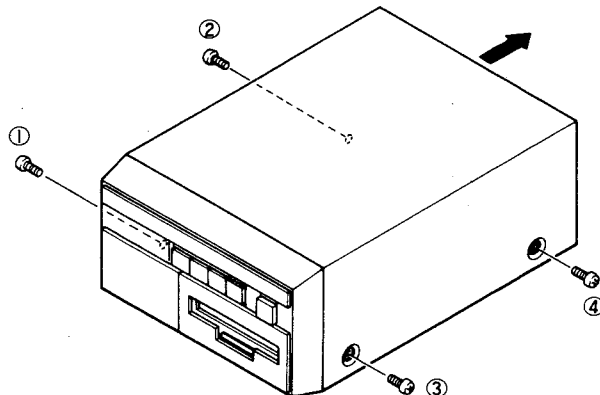

Fig. 1
Unscrew screws ① to ④, then slide top cover in the direction marked to removal. (See Fig. 1)